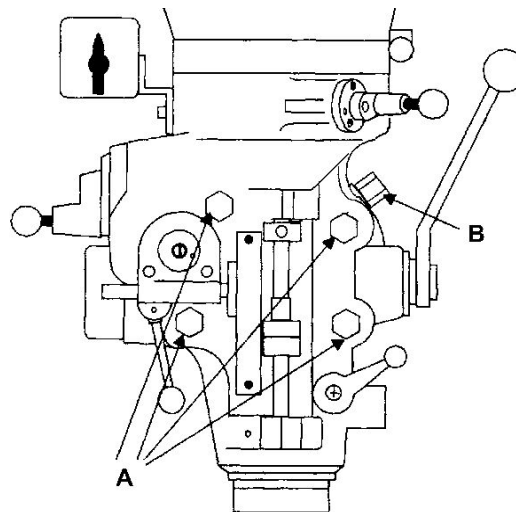

Figure 8: Mill head movement
- K. **Auto feed engagement lever (K)** - located on right side of head. When lever is in the right-hand hole, the auto feed worm gear is disengaged. To engage auto feed, pull knob out and move lever around to opposite hole. Engage pin in hole.
- L. **Coarse feed handle (L)** - located on right side of head. Used for non-precision drilling operations and for moving quill to a specific depth. Rotate clockwise to lower spindle. A return spring retracts spindle automatically when handle is released.
- M. **Quill lock (M)** - located on right side of head. Rotate handle clockwise to lock quill in desired position. Rotate handle counter-clockwise to release.
- O. **Feed trip control lever (O)** - located on left side of head. Engages overload clutch on pinion shaft when lever is positioned to the left. Stays engaged until quill stop comes into contact with micrometer adjusting nut (forcing feed control lever to drop out automatically), or until lever is released manually by positioning lever to the right.
- P. **Manual feed handwheel (P)** – located on left front of head. Feed direction control knob (Q) must be in neutral position. The feed control lever (O) must be engaged. **Note:** Manual feed handwheel may be taken off when not in use.
- Q. **Feed direction control (Q)** – located in center of manual feed handwheel. Position of knob depends upon direction of spindle rotation. If boring with right hand cutting tools, pull feed knob towards operator until clutch becomes engaged. Neutral position is between forward and reverse position. (Refer to Figure 8 and accompanying text for further detail.) If control does not engage easily, move handwheel (P) back and forth to aid engagement.
- R. **Quill stop (R)** – located on front of head. Used to disengage automatic feed in either direction as well as the setting point for working to a given depth.
- S. **Quill feed speed selector (S)** – located on left side of head. Pull knob out and locate handle over choice of three feed speeds (0.0015", 0.003", and 0.006") per spindle revolution. The selector shifts into engagement more easily when the spindle is rotating.
- T. **Drawbar (T)** – located on top of head. Used to secure tool holder in the taper. Use the spindle brake (C) while tightening drawbar.
1. Loosen four large hexagonal nuts that secure the mill head to the ram adapter (refer to Figure 8). One-quarter ($1/4$) turn should be sufficient to allow the head to move.
2. Turn worm nut (B, Figure 8) to tilt head left or right as required. Use the scale on the ram adapter to set desired angle.